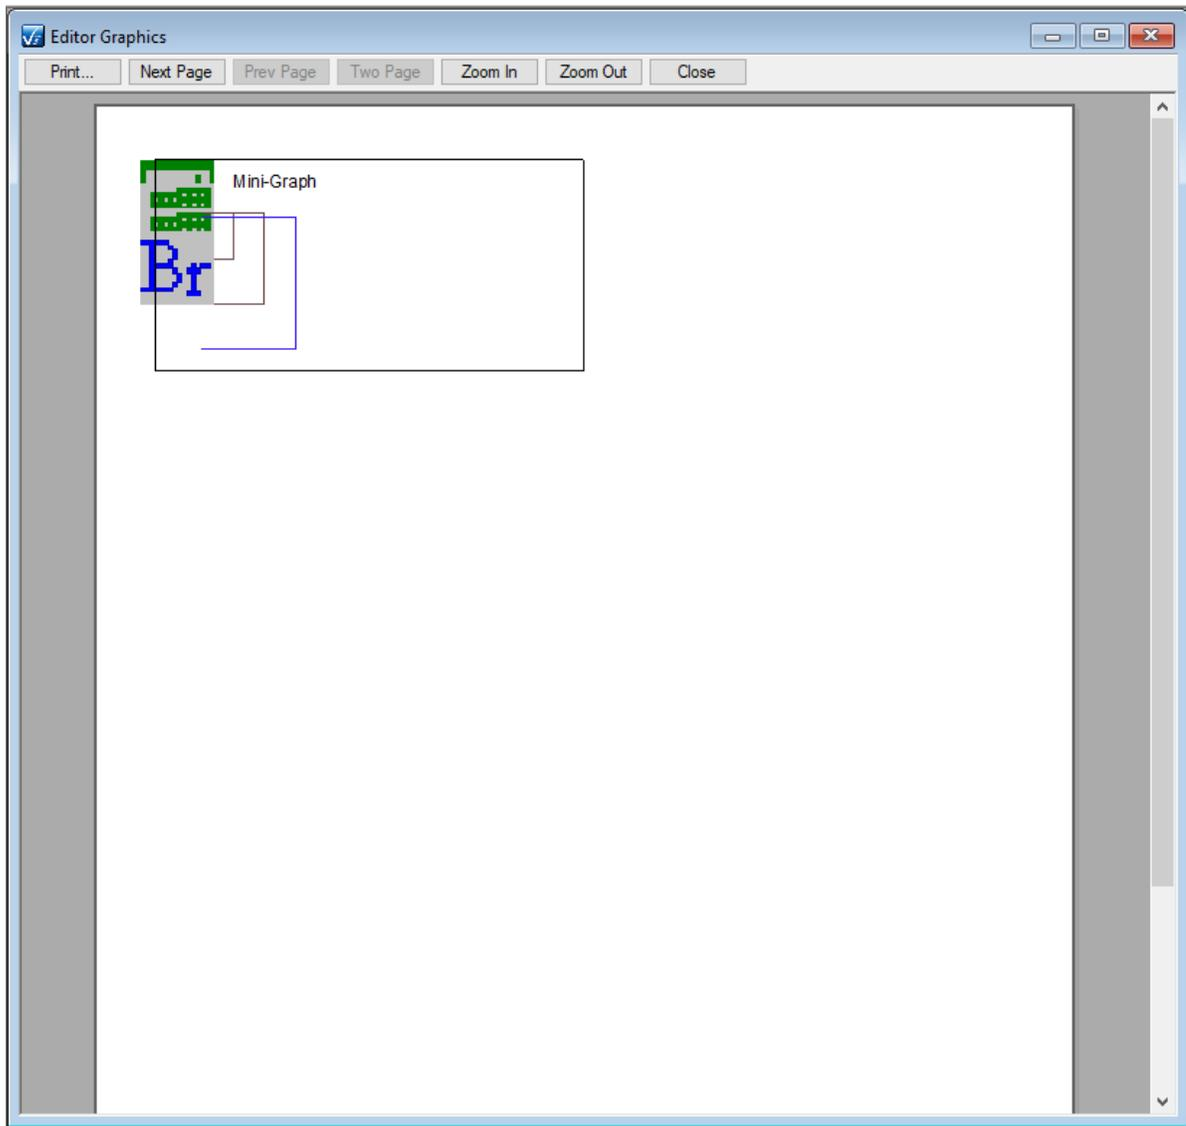
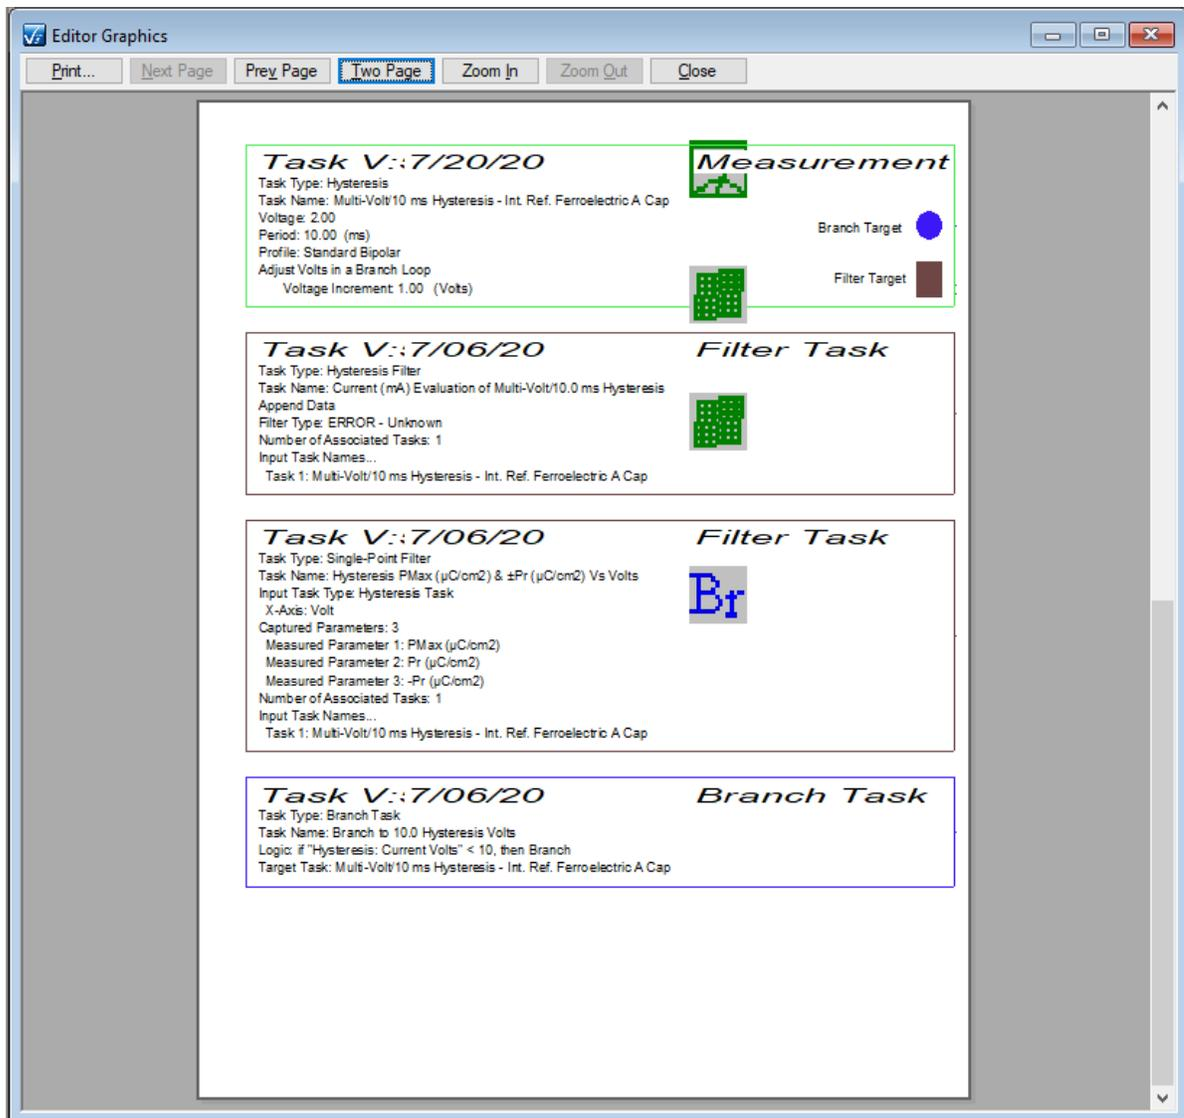

Figure 2A - Print Preview First Page - Right Graph Pane.
Figure 2B - Print Preview Second Page and Beyond - Left Graph Pane.
Step 2: A standard Windows Print Preview window will open. The print preview will comprise at least two pages. The first page (**Figure 2A**) shows the Mini-Graph and any User Comments. The remaining pages show the Task boxes of the left view pane. Note that the icon bitmaps do not operate properly in the Print Preview. They will be misplaced on the page (**Figure 2A**) or may even fail to appear (**Figure 2B**).